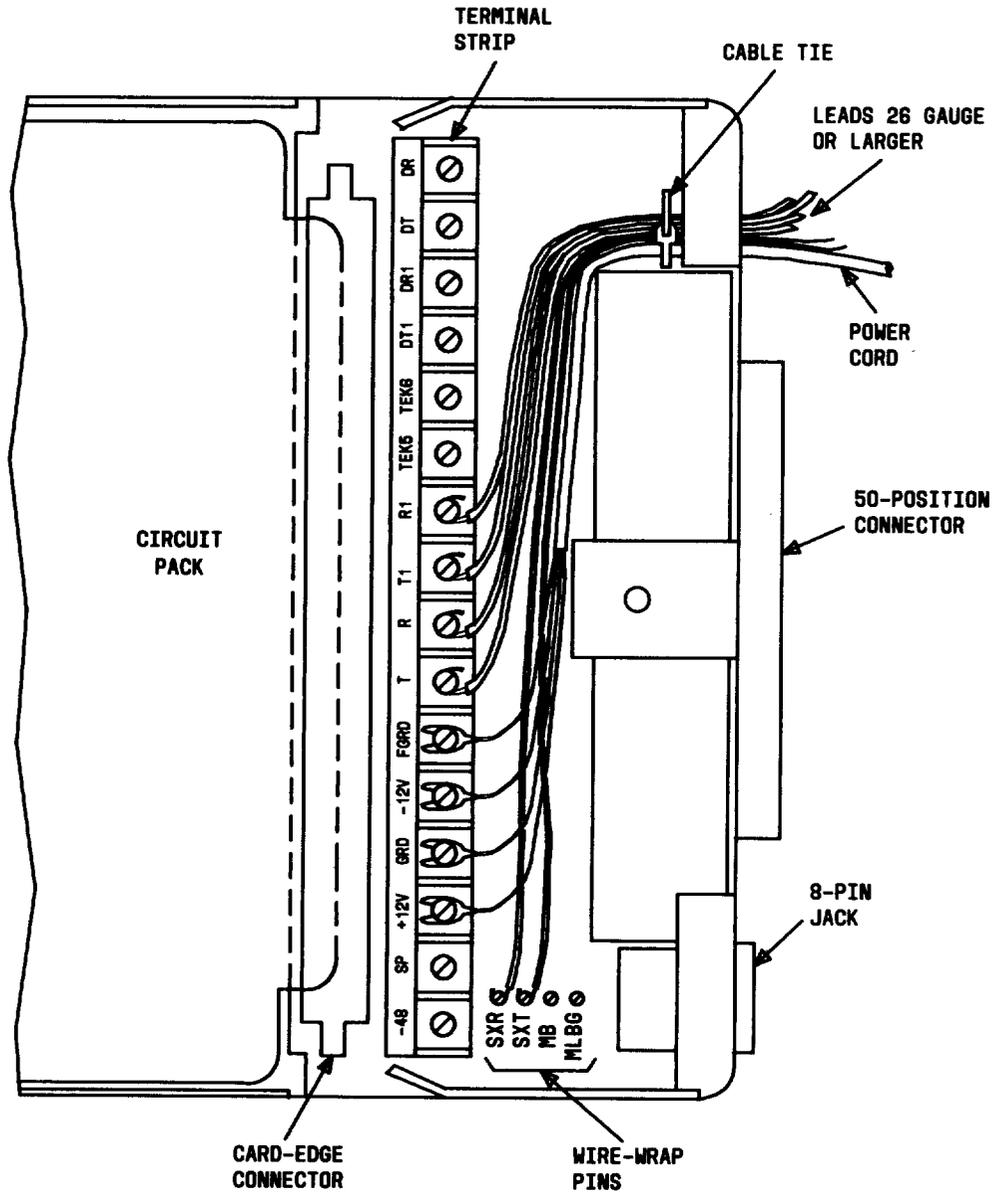

Fig. 5—Terminal Strip and Wire Wrap Connections (± 12 Volt Power Shown)
4.11 Restrain the leads to the terminal strip and wire wrap pins with a cable tie as shown in Fig. 5.